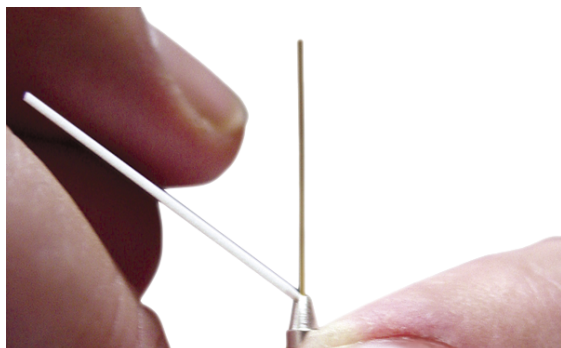

Figure 14. Trim, if needed
2. Check the column end. It should be square and free of cracks. If needed. See Figure 14